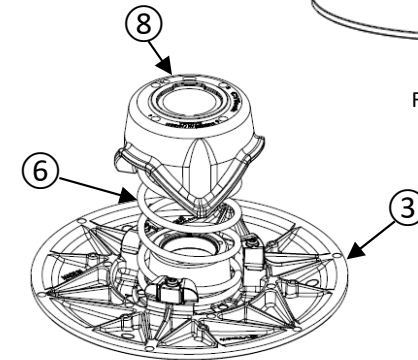

Figure 31
- Place the spring ⑥ lugs into the proper cam ⑧ hole and the proper sliding sheave ③ hole at the same positions noted during the disassembly steps (figure 31).